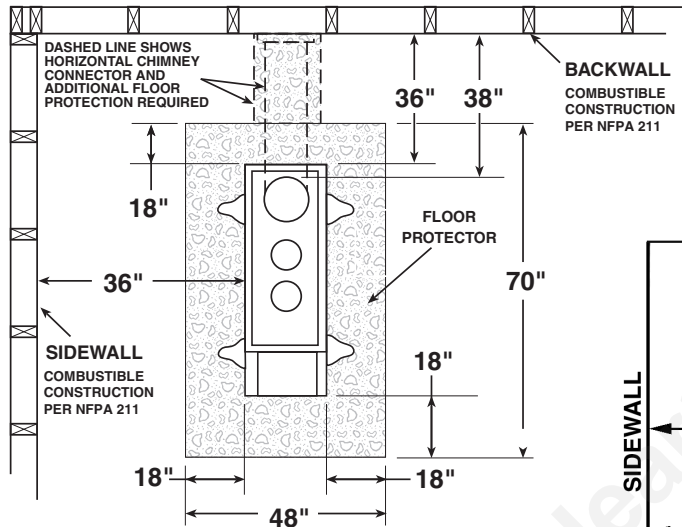

Figure 1 – Top View Minimum Clearance Dimensions from Combustible Surfaces
3. After observing the clearances to combustible materials (figure 1–3), locate your floor protector accordingly and carefully place the stove in your selected location. Install connector pipe, elbows, and thimble as required, utilizing either a
4. Use round 6" dia., minimum 24 MSG black or 26 MSG blue steel stove pipe to connect the stove to the chimney. **DO NOT USE GALVANIZED DUCT PIPE AS A CONNECTOR.** Secure connector pipe to the flue collar with three (3) sheet metal screws. Secure pipe/elbow sections with three sheet metal screws at each joint to make the piping rigid. Screws may be no more than a maximum of 3"/76mm apart. DO NOT connect this stove to any air distribution or duct system.
5. Recheck clearances from the stove, connector stove pipe, and corner clearances using the illustrations (figure 1–3) and your local building codes or fire protection ordinances.